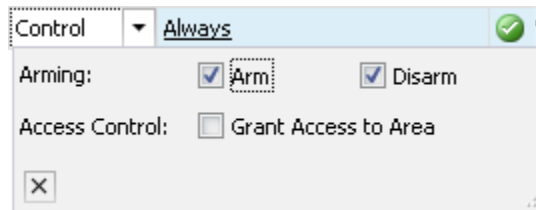

Figure 28
9. Depending on the entity selected in the “What” column, the “Options” column may have a drop-down selection available. *Figure 28* is an example of the area control options.